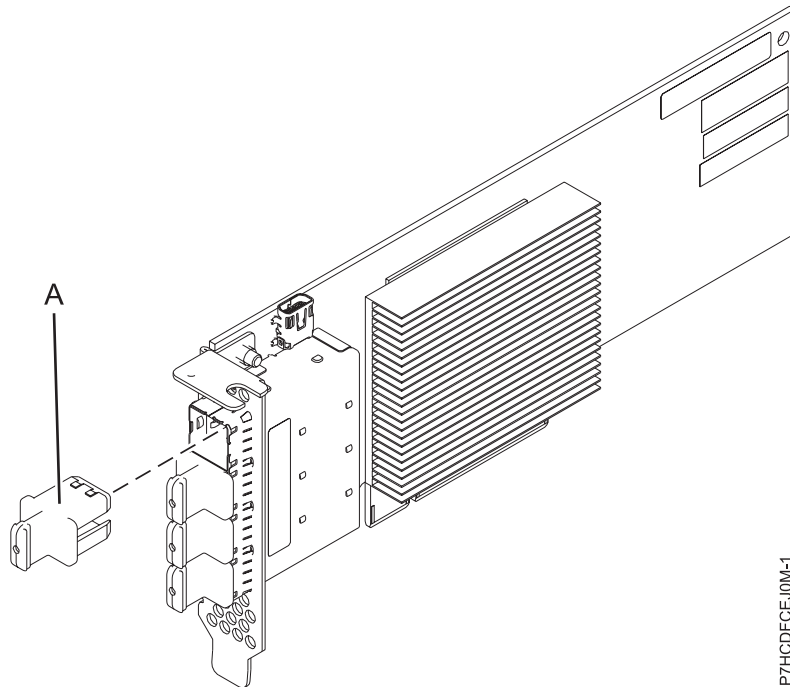

Figure 58. PCIe3 LP 4 x8 SAS Port Adapter
The PCIe3 LP 4 x8 SAS Port Adapter is a PCI Express (PCIe), generation 3, RAID SAS adapter is a low-profile, short-form factor adapter. The adapter is used in high-performance and high-density, serial attached SCSI (SAS) applications. It supports the attachment of SAS DVD or SAS tape by using four mini SAS high-density (HD) x4 connectors that allow the physical links to be used in various narrow and wide-port configurations. SAS tape attachment is only supported in a single adapter configuration and cannot be mixed with SAS disk on the same adapter. The adapter does not have write cache. Figure 58 on page 157 shows the PCIe3 LP 4 x8 SAS Port Adapter.
Figure 58 on page 157 shows the adapter. The connector plug (A) is installed in an empty port and prevents damage to that port whenever a cable for the adjacent port connectors is plugged-in or removed.